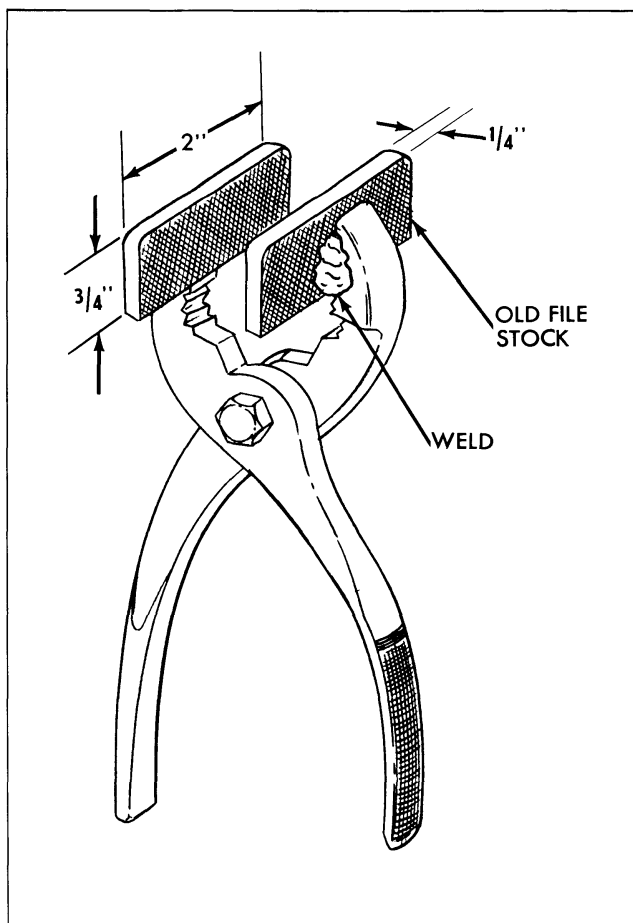

Fig. 23-3 Fabric Cover Pliers
*NOTE: Where new cover is installed at temperatures below 72°, pliers fabricated as shown in Fig. 23-3 will aid in removing wrinkles.*